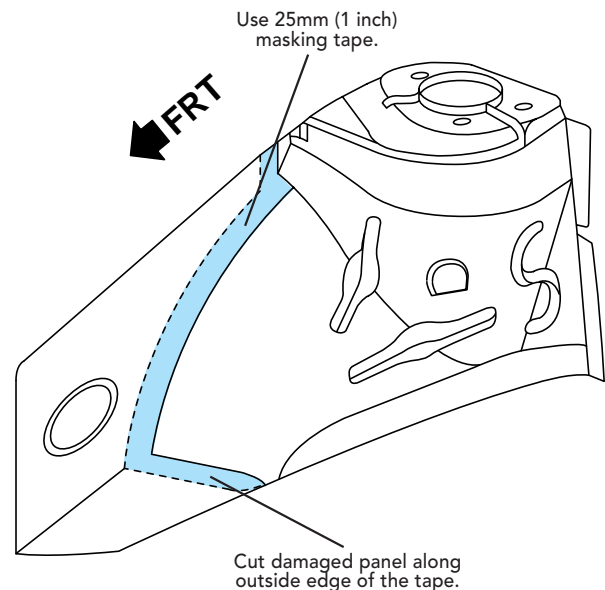

Fig. 4.6 — Sectioning Damaged Wheelhouse
- 3 Place 25mm (1 inch) wide masking tape following the forward contour of the strut tower. Cut the wheelhouse along the outside edge of the masking tape (Fig. 4.6).